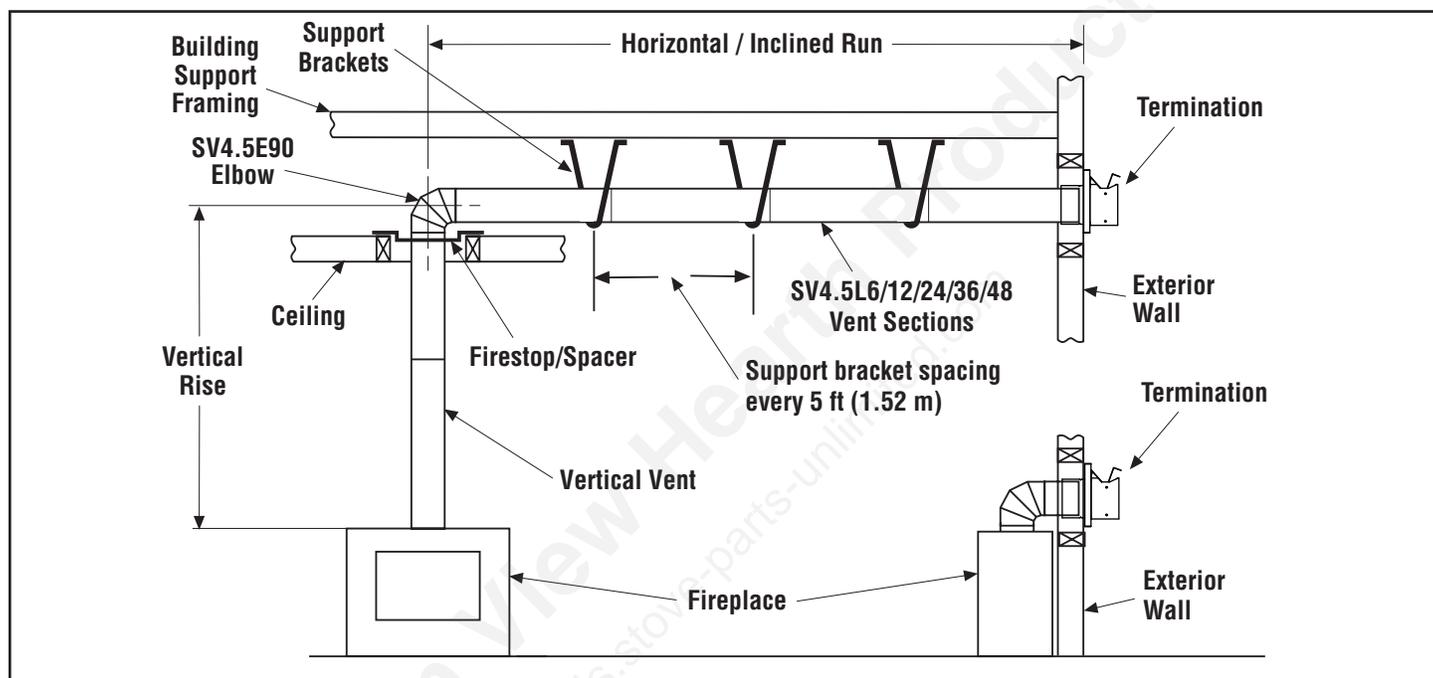

Figure 8 - Typical Horizontal Vent Installation
- 7. Support fireplace vent outlet with field provided support straps (Plumber's tape)**—Attach the straps to the vent pipe and secure to the framing members with nails or screws (Figure 8).
- 9. Continue installation of horizontal/inclined sections—** Continue with the installation of the straight vent sections in horizontal/inclined run. Install support straps every 5 ft. (1.52 m) along horizontal/inclined vent runs using conventional plumber's tape (Figure 8, page 12). Maintain the horizontal/inclined run in a straight (no dips), slightly elevated plane. The recommended incline is approximately 1/4" per 1 ft (20 mm per 1 m) horizontal, in a direction away from the fireplace. Smaller rise per foot run ratios are acceptable all the way to at or near level. Use a carpenter's level to measure from a constant surface and adjust the support straps as necessary. Maintain the required clearances to combustibles (Page 7).